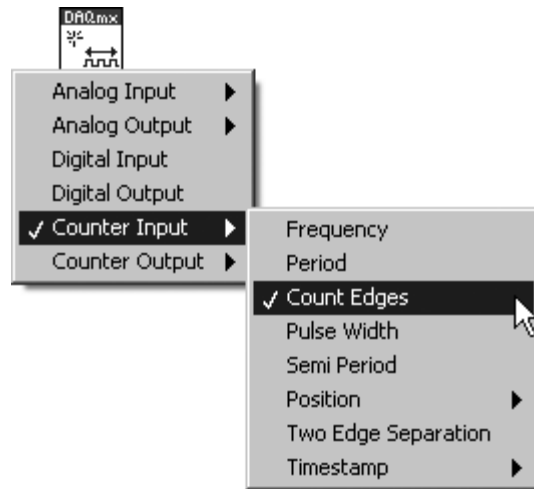

Figure 11.72
3. After placing **DAQmx Create Virtual Channel** onto the block diagram, select the **Counter Input>>Count Edges** instance from the Polymorphic VI Selector, as shown in Figure 11.72.